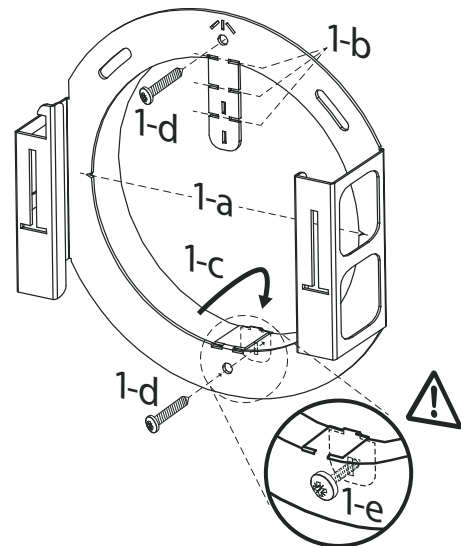

Figure 1.
⚠ - Each frame part is marked with an arrow symbol. The arrow is pointing to the ceiling for a proper wall mounting, see Fig. 1.
- The center line of the frame (horizontal position), is marked with two „>” -shaped signs for easier marking during hole-making and drilling, Fig. 1-a.
- The frame parts are produced with foldable tabs that can be adjusted according to the thickness of the wall, see Fig. 1-b.
- The tab is folded over the plasterboard, Fig. 1-c.
- The frame part is secured with screws (not included) via the pre-drilled holes, Fig. 1-d.
⚠ - For safe installation, the length of the screw must be selected so that the screw goes through the folded tab slot too and tighten the frame part to the plaster wall, Fig. 1-e.